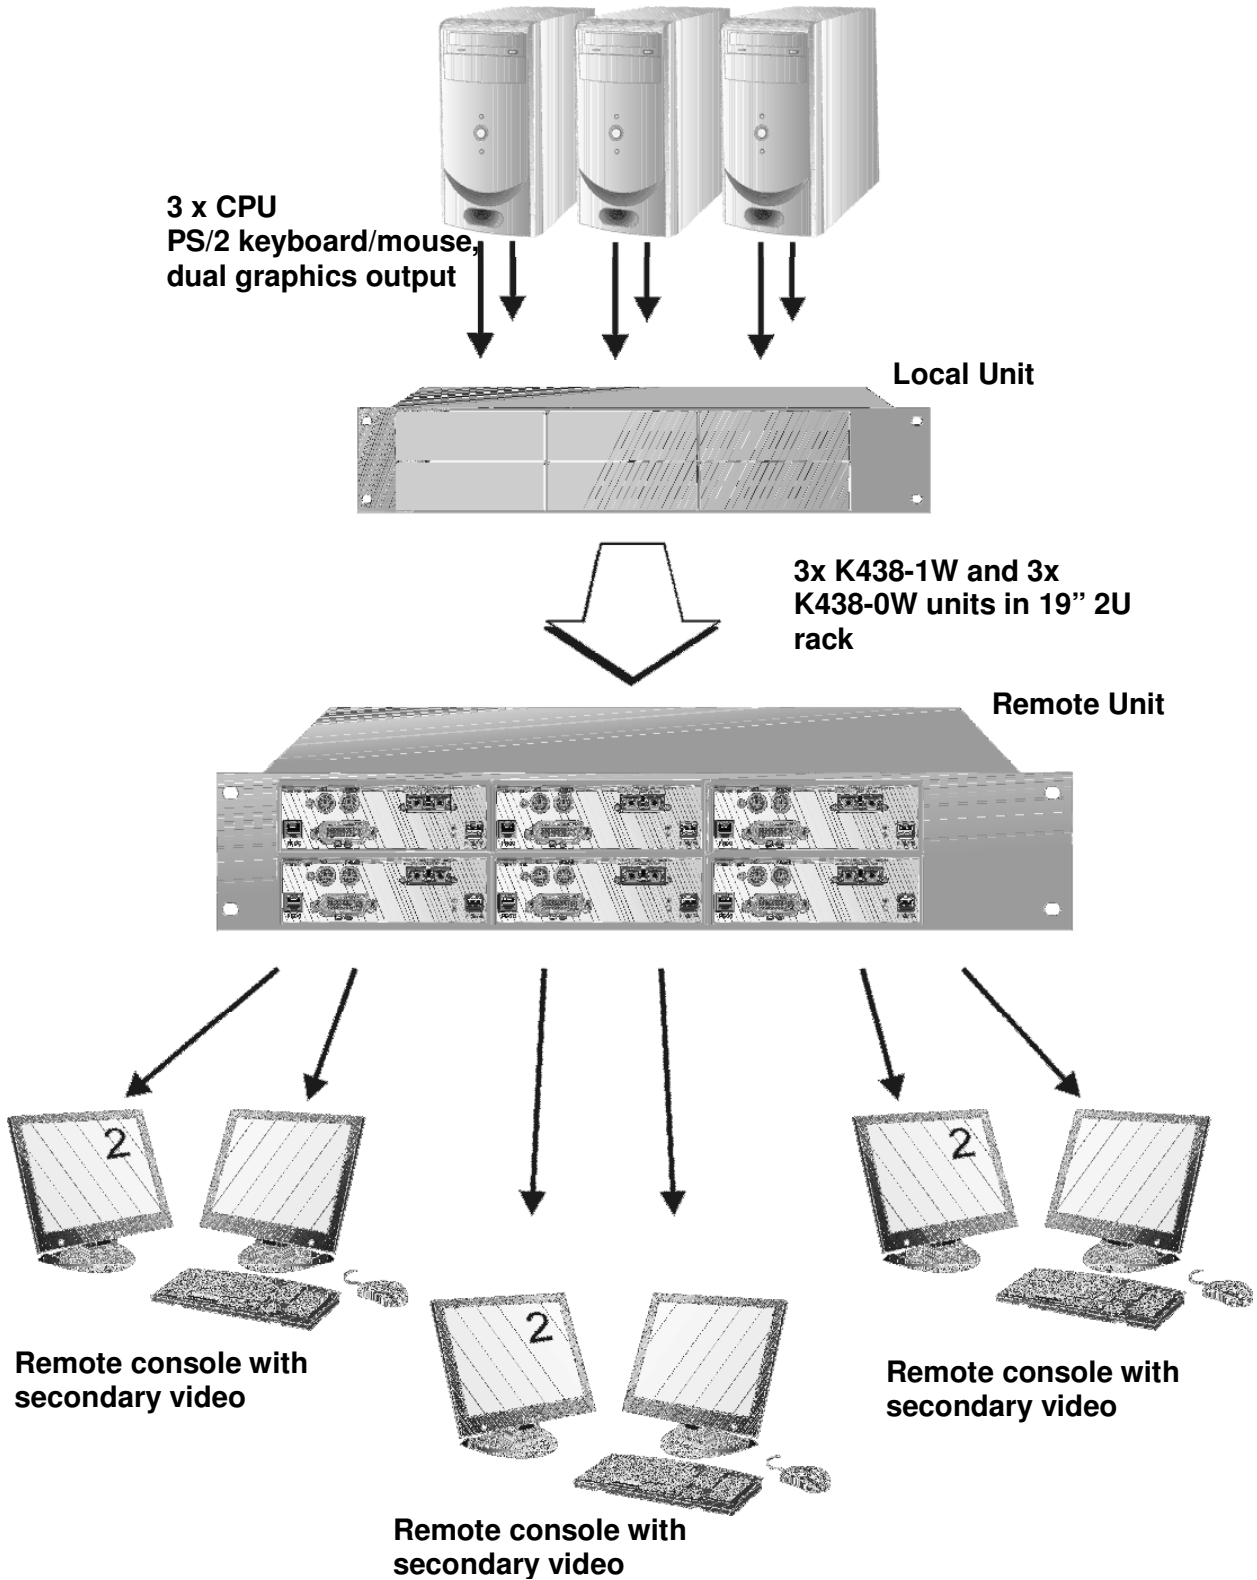

Figure 25 Multiple dual head application
- 3x Dual Head application in 19"/2U (Figure 25).